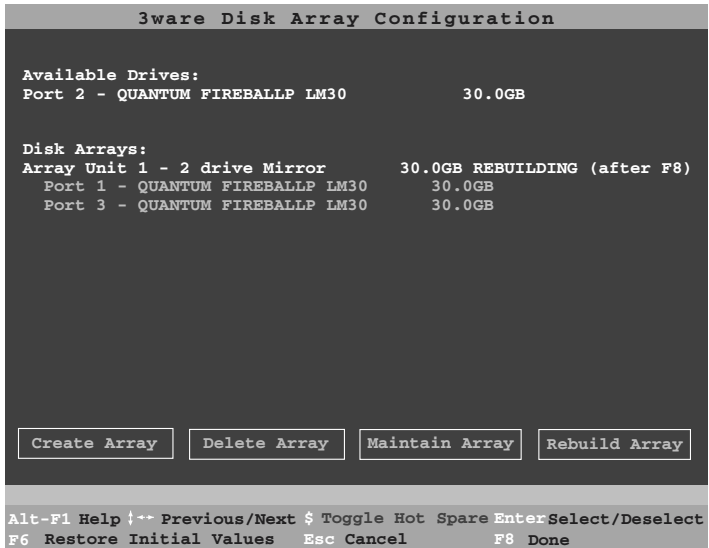

Figure 19. Rebuild Array Status Display, RAID 1 Example
- 7 Navigate to the **Rebuild Array** button and press **Enter** (see Figure 19). A status screen will be displayed with your requested array and member drives.